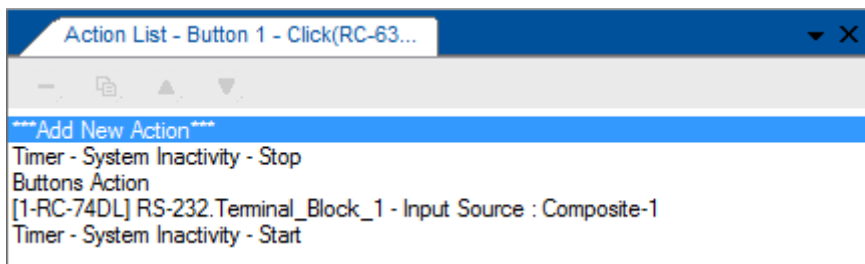

Figure 165: Timer Events – Button 1 Action List with Timer Triggers
8. Figure 165 shows the Button 1 trigger action list: